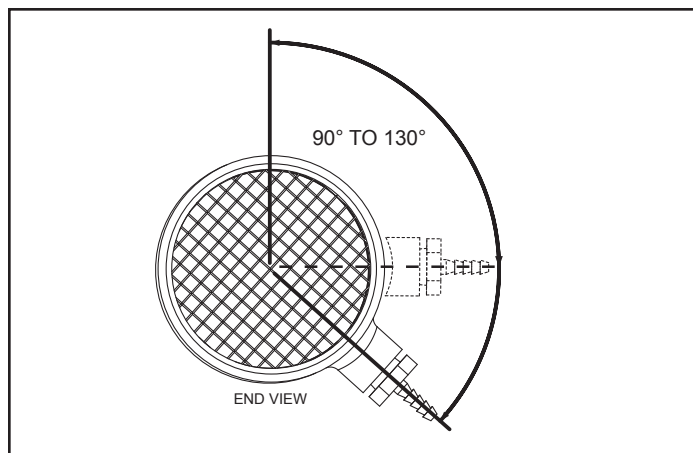

Figure 15. Orientation of Intake Air Tee Fittings
Ensure the hose barb installed in the Tee fitting **IS NOT** facing down towards the ground (180° - 6 o'clock position) before venting installation begins. The barb fitting must be angled between 90° and no more than 130° as shown in *Figure 15*. If the barb fitting is facing down, residual condensate that occasionally forms in the intake air pipe can drain into the Blocked Intake Air switch through the attached sensing tube and damage the switch. This condition can also lead to Blocked Intake Air fault conditions and associated control system lock outs.
The intake air Tee fitting is factory installed with the 1/2 inch branch and hose barb angled to the right at approximately 130° when viewed from the end. See *Figure 15*. The Tee fitting's 1/2 inch branch and hose barb must not be angled any lower (towards the ground) than this factory specification. Angling higher, up to a 90° position, will not adversely affect operation and is acceptable.
Inspect the angle of the Tee fitting's 1/2 inch branch and hose barb while viewing from the end of the Tee. See *Figure 15*. If the angle of the Tee fitting 1/2 inch branch and hose barb is lower than shown, adjustment will be necessary. To adjust the intake air Tee fitting angle follow the steps listed below.
4. Adjust the angle of the Tee fitting so that the 1/2 inch branch and hose barb are at the proper angle as shown in *Figure 15*.